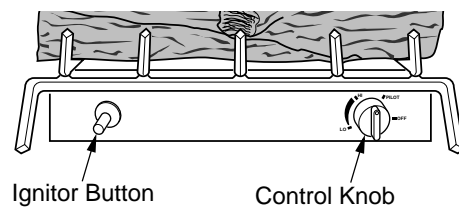

Figure 25 - Control Knob and Ignitor Button Location
4. Wait five (5) minutes to clear out any gas. Then smell for gas, including near the floor. If you smell gas, STOP! Follow "B" in the safety information page 15, column 2. If you don't smell gas, go to the next step.
5. Slightly depress and turn control knob counterclockwise  to the PILOT position. Press in control knob for five (5) seconds (see Figure 25).